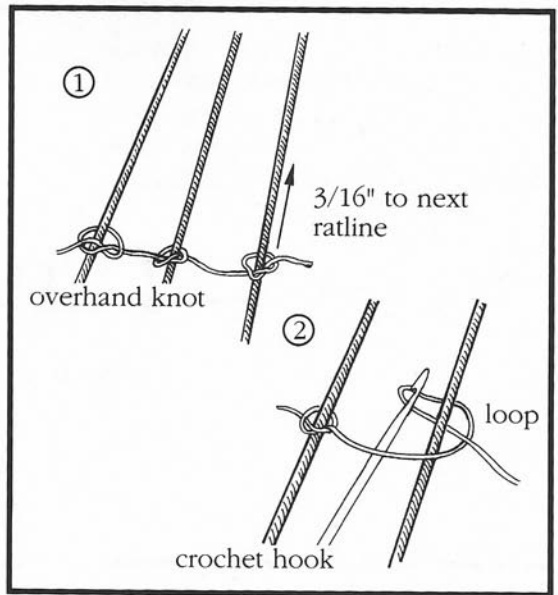

FIGURE 52. *Upper ratlines.*
to the shrouds (see Figure 52). At model size, this knot looks better than the traditional clove hitch because it is simpler and neater (1). Ratlines were not tarred, thus the rigging line you'll use for ratlines is cream-colored — and smaller than any other rigging line you'll use on the model. The vertical distance between the ratlines on a real ship was usually 16 inches, which works out to around $3/16$ of an inch on a $1/8$ -inch scale model. I judge this distance by eye, but you can also slip a strip of wood between the lines for proper spacing. To turn the line around the shroud I first make a loop, then push the loop behind the shroud and catch it on the other side with a crochet hook (2). Leave a short piece of